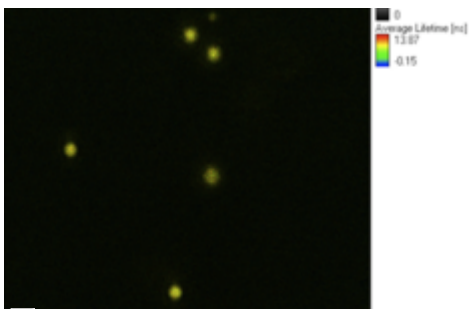
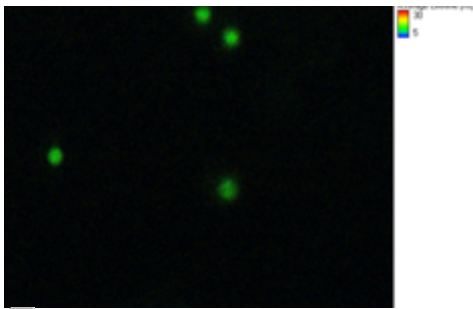
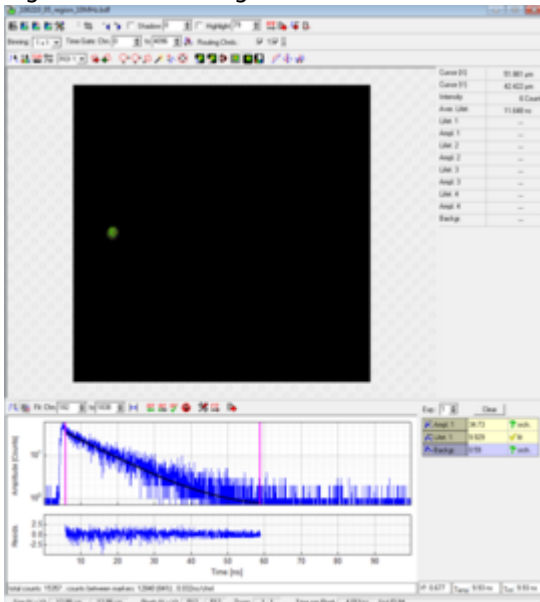

Figure5: NV-centers in bulk diamond. 5 micrometer into the sample, 532nm excitation, 690/70 emission, 40MHz rep. rate, 6789.96a.u., 2ms/pixel, 15×15 micron
Figure6: same as figure 5 but recorded with 10 MHz rep rate., 2304.94 a.u.; 4 ms/pixel 45 min rec. time!
Figure7: Fluorescence Lifetime Fit of a selected NV center, 10 Mhz rep rate, Inhouse II, MPD/SPAD
- zoom into a region with a few NV-centers (see figure 5),
- For lifetime analysis switch laser repetition rate to 10MHz (see figure 6)
- smaller area is depicted in figure 5 and figure 6
- Selecting a ROI in figure 6 and plotting the fluorescence lifetime histogram should resemble figure 7